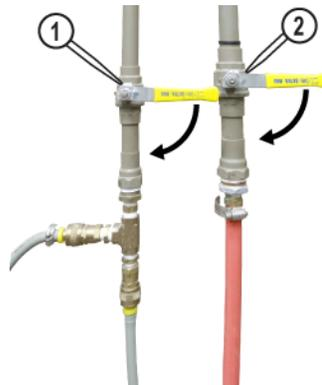

Figure 31
3. Open the **water supply valve** [2] (Figure 31).